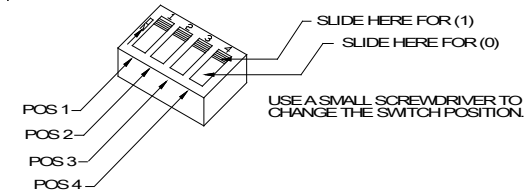

Figure 2: Switch (SW1) Settings
STEP 1: Set desired dBA sound output level as follows (refer to Figure 2 and Table 2).
STEP 2: Set desired alarm tone as follows (refer to Figure 2 and Table 3).
MT4-115 Multitone Appliances are field set for any one of eight alarm tones by setting a four-position switch (SW1) as shown in Figure 2 and Table 3. Use SW1 POS 2, 3, 4 to select the desired alarm tone (refer to Table 3 below).